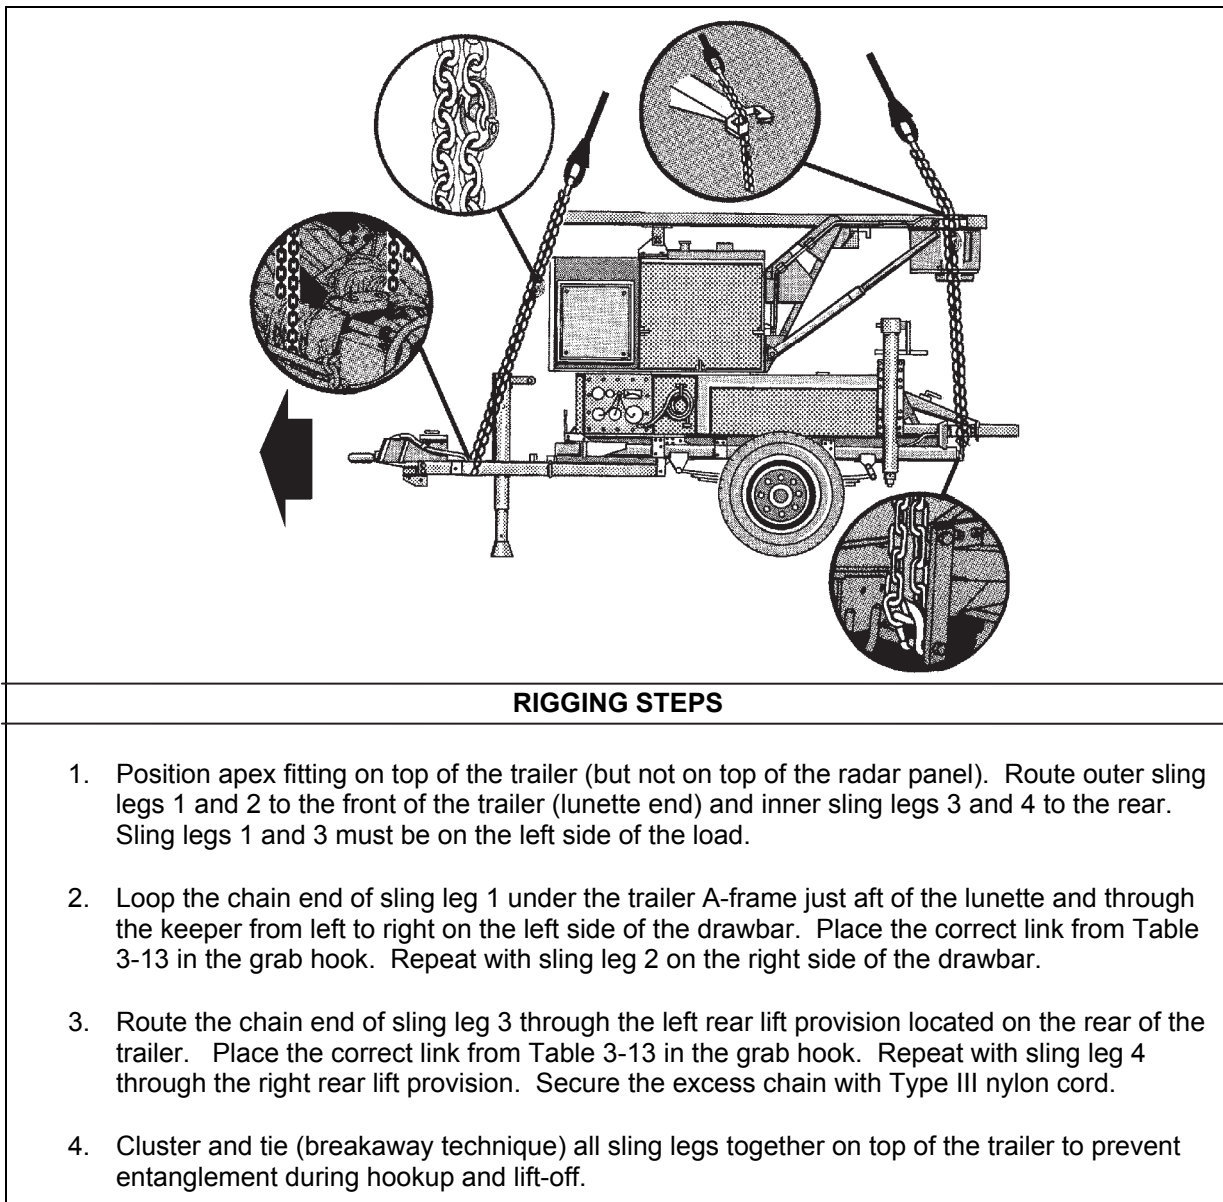

Figure 3-13. M116A2 Trailer with AN/TPQ-36 Firefinder Antenna TraNSRDECeiver Group
- **Rigging.** Rig the load according to the steps in Figure 3-13.